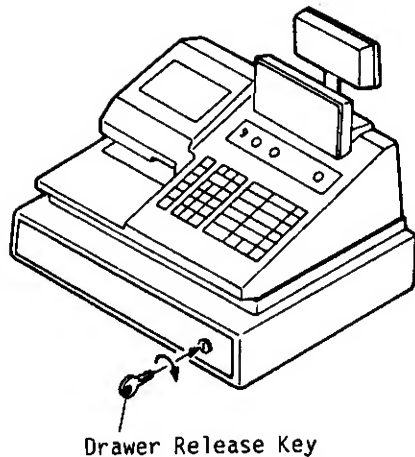

Fig. 1
1. Insert the Drawer Release Key into the drawer release lock and turn the key clockwise. The drawer will now open. (Fig. 1)